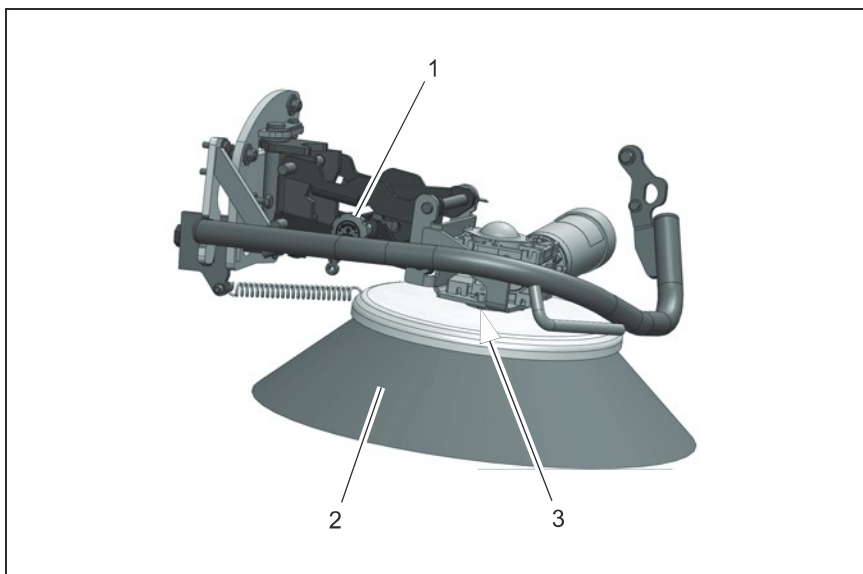

Fig.27
Check the side brushes (Fig. 27/2) every week for signs of wear. In the event of wear or after the side brushes have been changed, proceed as follows to complete the necessary adjustments:
2. Adjust the contact surface of the side brush (Fig. 27/2) using the adjusting bolt (Fig. 27/1). The contact surface of the side brush should be approx. $\frac{2}{3}$ of the brush circumference.
2. Loosen the screws and washers on the catch (Fig. 27/3) and remove the side brush (Fig. 27/2).